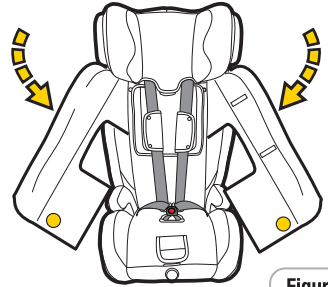

Figure 4
- Step 2:** Slide the cover over the seatback and behind the headrest (refer Figure 4).